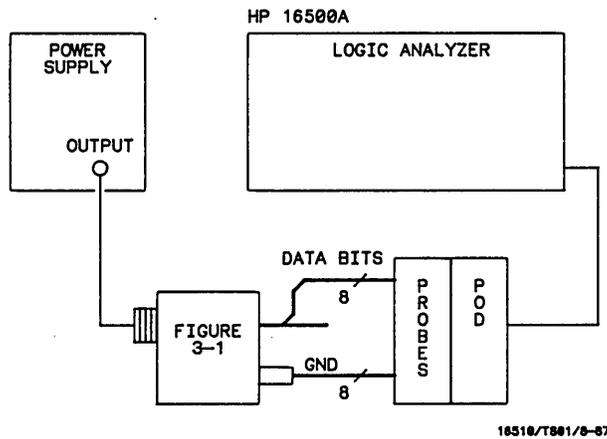

Figure 3-38. Setup for Threshold Accuracy Test
1. Connect the test equipment as in figure 3-38.